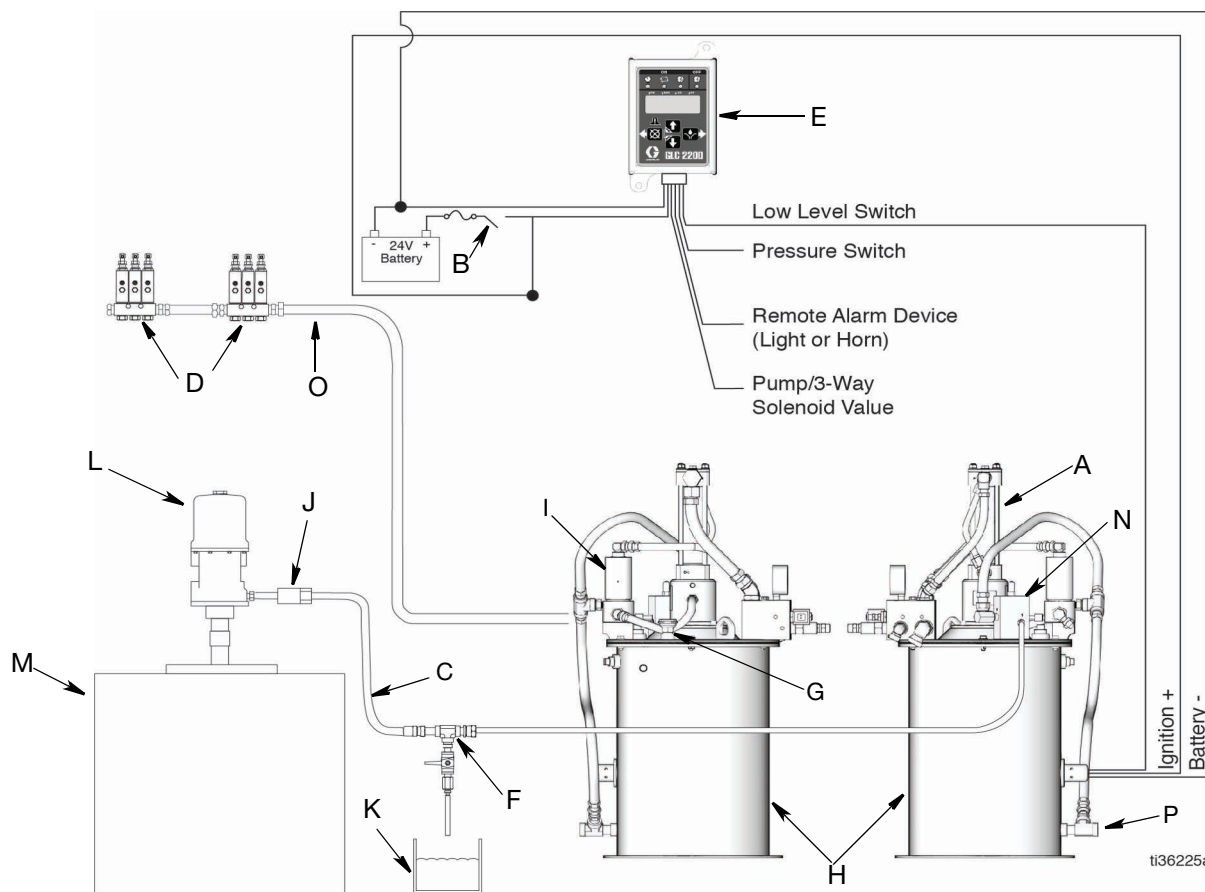
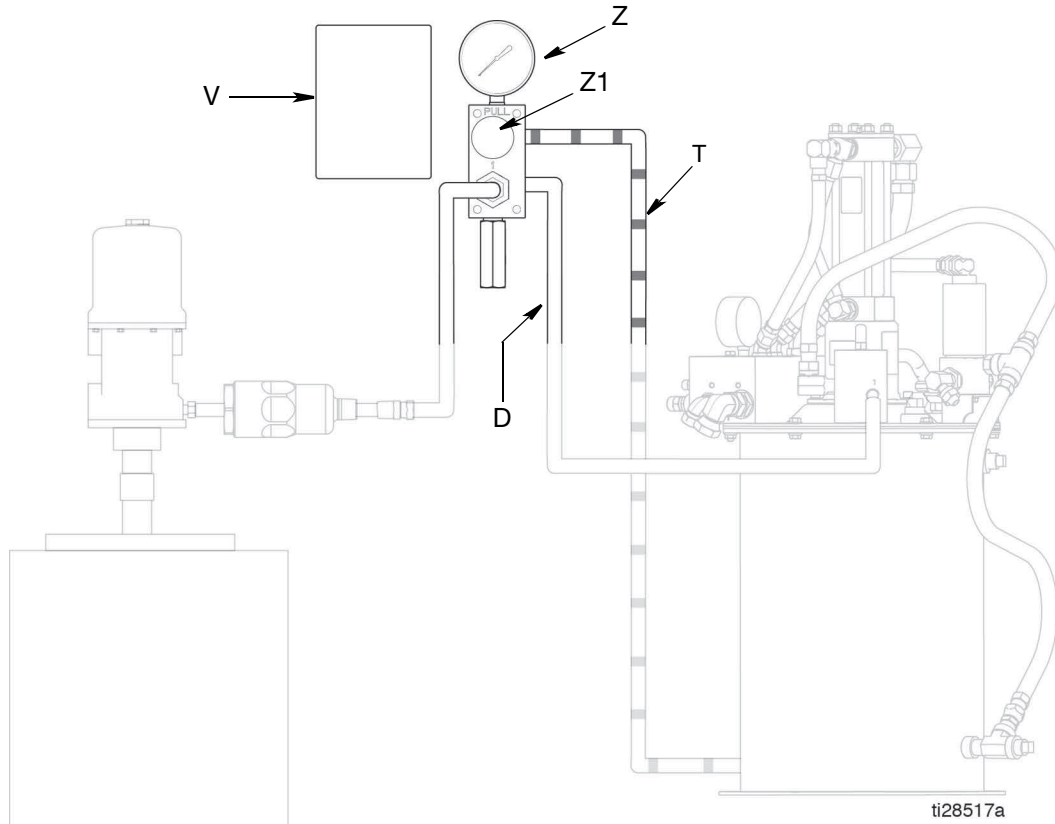
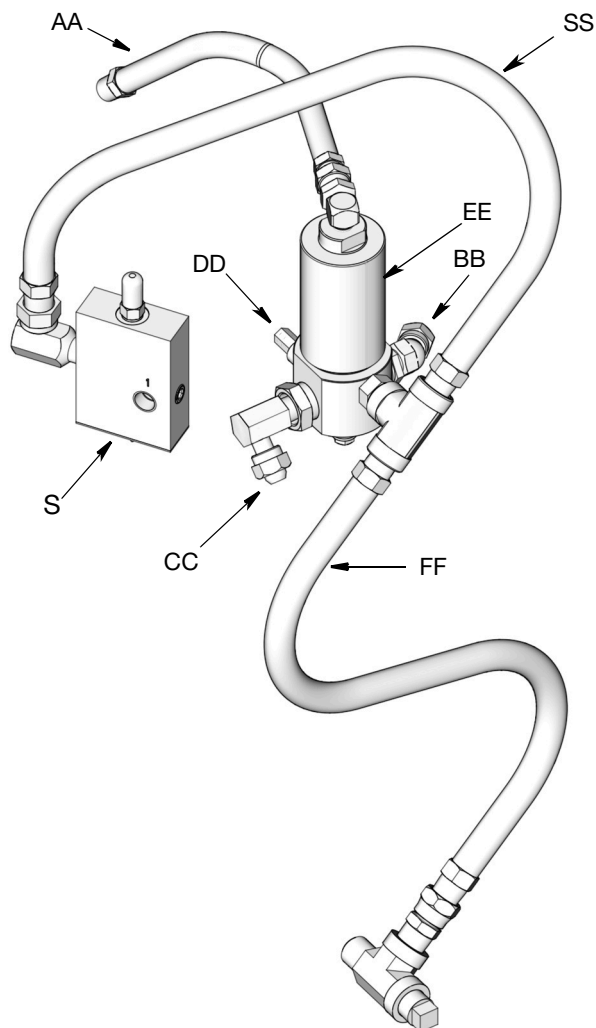
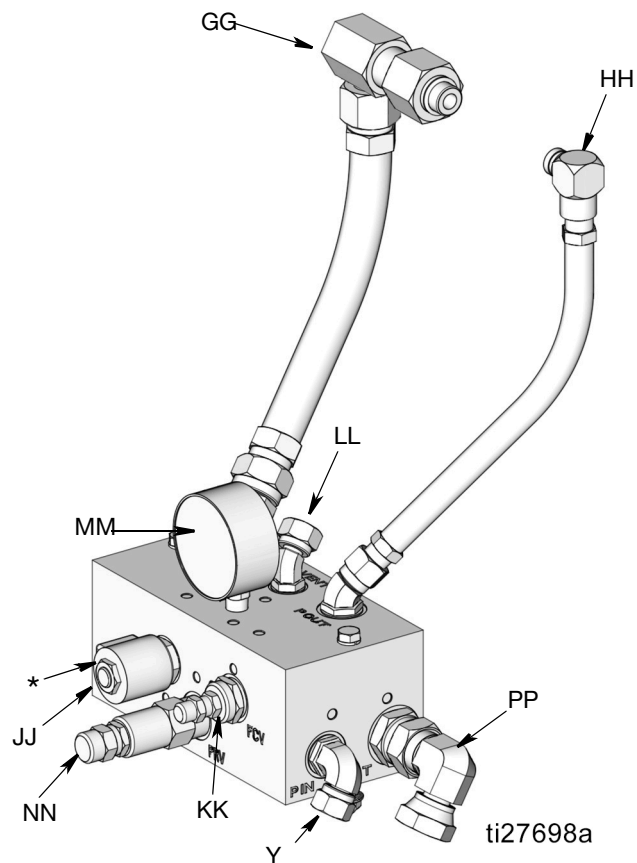

FIG. 2
FIG. 7
FIG. 8
FIG. 9
Mount reservoir (K) (FIG. 2, page 7) to a grounded chassis member.
- The hydraulic system must be depressurized before connecting high pressure lubricant supply lines (W).
- Be sure breather (J) is not plugged before filling reservoir (K).
1. Install Ball Valve (A) (user provided) in the 3/8-inch High Pressure Hydraulic Line (G) (FIG. 2, page 7).
2. Connect the 3/4-inch hydraulic tank line (T) (FIG. 2, page 7) to the tank hydraulic connection swivel (PP) (FIG. 9, page 11).
3. Connect the 24 VDC timer controlled signal to the 3-way solenoid valve (JJ) (FIG. 9, page 11).
4. Connect high pressure lubricant supply line (W) (FIG. 2, page 7) to the lubricant output connection (CC) (FIG. 8, page 11).
6. Connect the 3/8-inch high pressure hydraulic line (G) (FIG. 2, page 7) to the high pressure hydraulic connection swivel (Y) (FIG. 9, page 11).
To relieve the stall pressure in the refilling line (D) a pressure relief valve (H) (FIG. 2, page 7) or a fill valve (Z) (FIG. 7, page 10) **must** be installed in the system.
NOTE: The components highlighted in FIG. 7 identify the unique features in a Fill Valve installation. See Typical Installation on page 7 for a complete list of the other system components.
NOTE: Unless otherwise noted, the reference letters used in the following instructions refer to FIG. 2, page 7.
- Open pressure reducing valve (NN) to reduce trapped hydraulic pressure (FIG. 9, page 11).
- NOTE:** The gauge (MM) on control module should read zero pressure after performing this step.
3. Disconnect power from lubrication controller (F).
4. **Relieve pressure** in high pressure supply lines (W) using two wrenches working in opposite directions to **slowly loosen fitting only** until fitting is loose and no more lubricant or air is leaking from fitting.
1. Upon receiving a signal from a 24-volt lubrication controller (F), the 3-way solenoid valve opens, starting the pump (B) and closes the vent valve (L).
2. The pump builds pressure until the pressure switch in the system sends a signal to the lubrication controller (F) ending the cycle, or the pump (B) stalls.
3. The lubrication controller (F) terminates the 24-volt signal to the 3-way solenoid valve.
4. The 3-way solenoid valve closes, stopping the pump (B) and opening the vent valve (L) into the reservoir (K).
5. The pressure reducing valve (NN) and flow control valve (KK) control the pump output pressure and cycle rate (FIG. 9, page 11).